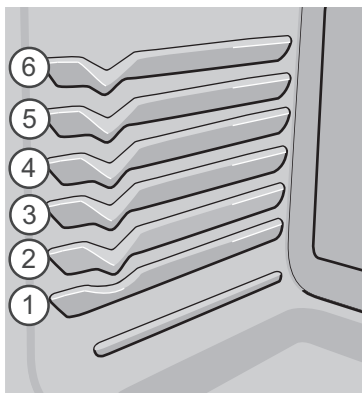
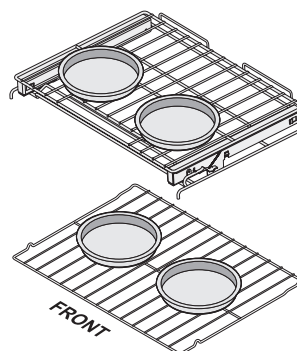

Figure 28: Oven rack positions
Figure 29: Baking on multiple levels/racks
- For best results when baking cookies using two oven racks, place racks in positions 3 and 5 (Figure 28). Use flat rack in position 3 and Glide Rack in position 5.
- For best results when baking cakes using two oven racks, place racks in positions 1 and 4 (Figure 28) and place pans as shown in Figure 29. Use flat rack in position 1 and Glide Rack in position 4.
- When baking using two oven racks, position bakeware as shown in Figure 29. Allow at least 2 inches (5 cm) of space between bakeware for proper air circulation.